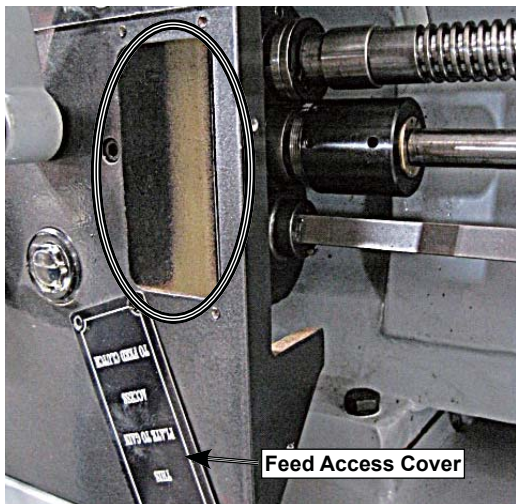

Figure 103. Feed access covers removed.
2. Remove the front and side feed access covers, as shown in Figure 103.